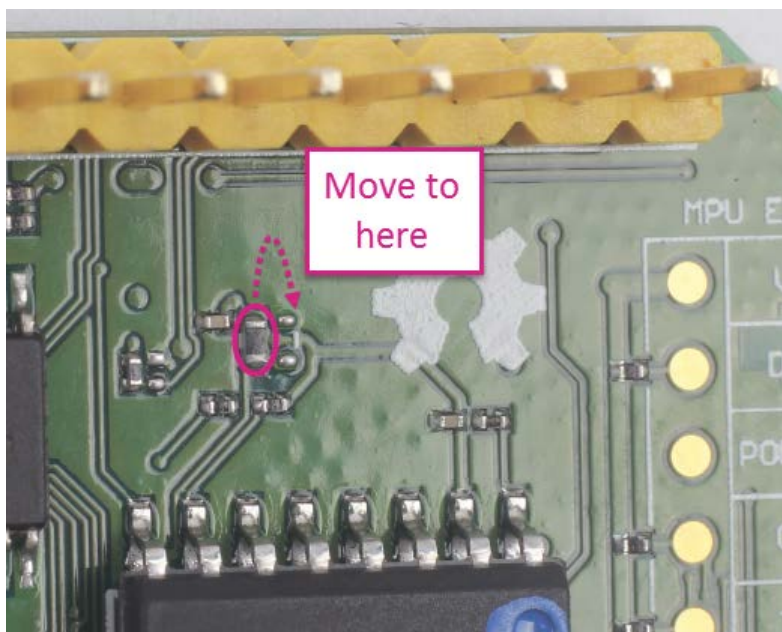

Figure 5 Moving a resistor to access JTAG mode
- 2) Move a resistor by unsoldering and soldering it to a position to the right as shown in Figure 5, after you've finished moving the resistor, restart the device and you should be able to activate the JTAG function.